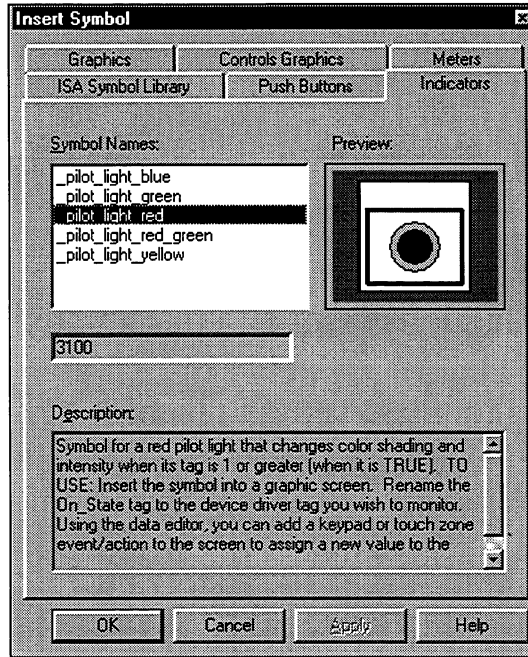

Figure 4-10. Preview of Pilot Light Symbol
4. Select the `_pilot_light_red` symbol, as shown in Figure 4-10.